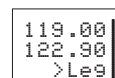

Figure 5-2
2. Make sure the left inner knob is pushed in, and use it to complete the desired frequency. In this case, the left inner knob changes the frequency in increments of 0.05 MHz (50 kHz) (figure 5-2). Note that the left inner knob must be rotated three clicks clockwise to go from 122.75 MHz to 122.90 MHz.
1. Use the left knobs to tune the standby COMM frequency, such as 122.90 MHz (figure 5-2 above).